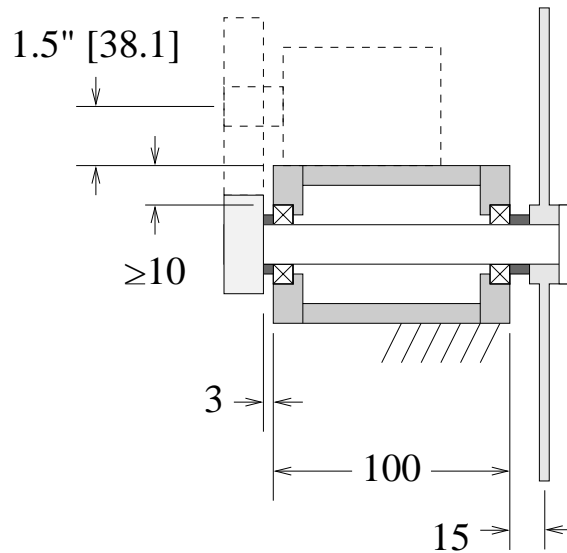

Figure 2: Geared Design Dimensions
You must design/select ball bearings for the blade shaft and perform the complete design of the two gears. *As with DP1 and DP2, you will also be required to type in summary data into a Canvas quiz.* For this design problem, we are interested in the bearings and gears, so **no calculations are necessary for the new pivot arm, the shaft, the shaft connection hardware, or the motor.** Required dimensions (in millimeters, unless otherwise indicated) are shown in Figure 2.
8. The final layout of the gears must leave at least 10 mm ($\sim 3/8"$) in the front and back plates of the support box around the hole that you bore for the OD of the bearings (Figure 2).